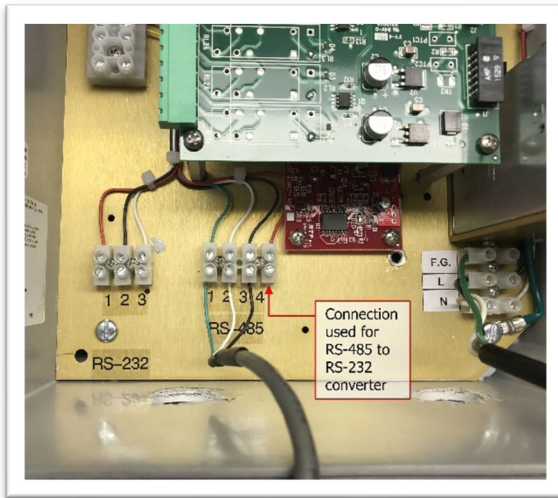

Figure 3.1
- Connect pins 1-3 only as shown in Figure 3.1